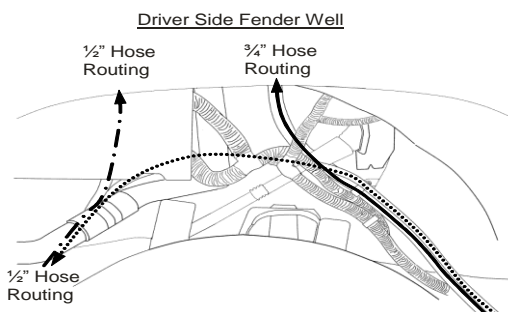

Figure 5.13
- ☐ Connect the 3/4" hose to the matching fitting on the back of the compressor. Figure 5.13 shows the basic layout of the hoses.